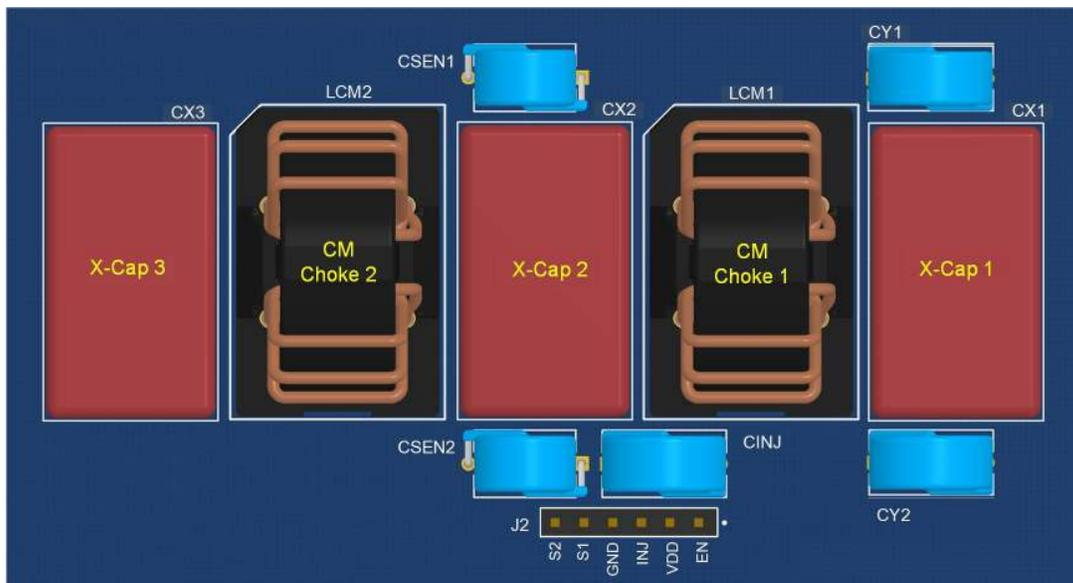

Figure 4-2. Filter Component and EVM Placement Example
Refer to the diagram of Figure 4-2 for an example of suitable component placement on the filter board. The EVM header J1 mounts directly to receptacle J2.
4. Plug in the EVM to the filter board (see receptacle J2 in Figure 4-2).